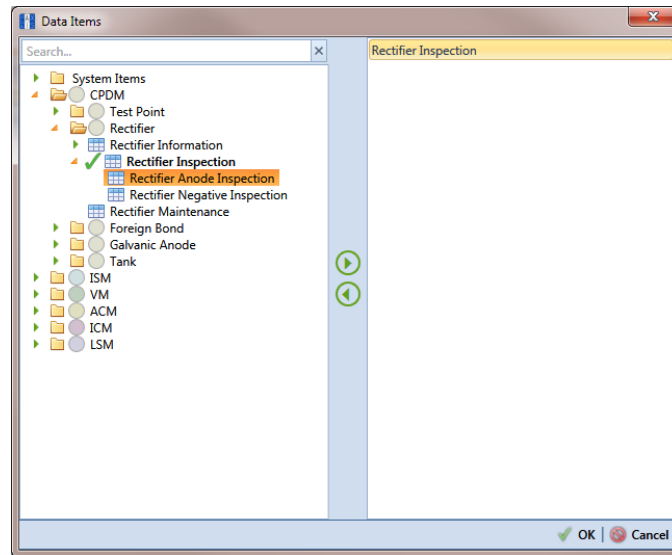

Figure 10-34. Data Items
- 12** Choose data item(s) you want to import and export. Click  **Add Data Item** to open the *Data Items* window and then complete the following steps (Figure 10-34):